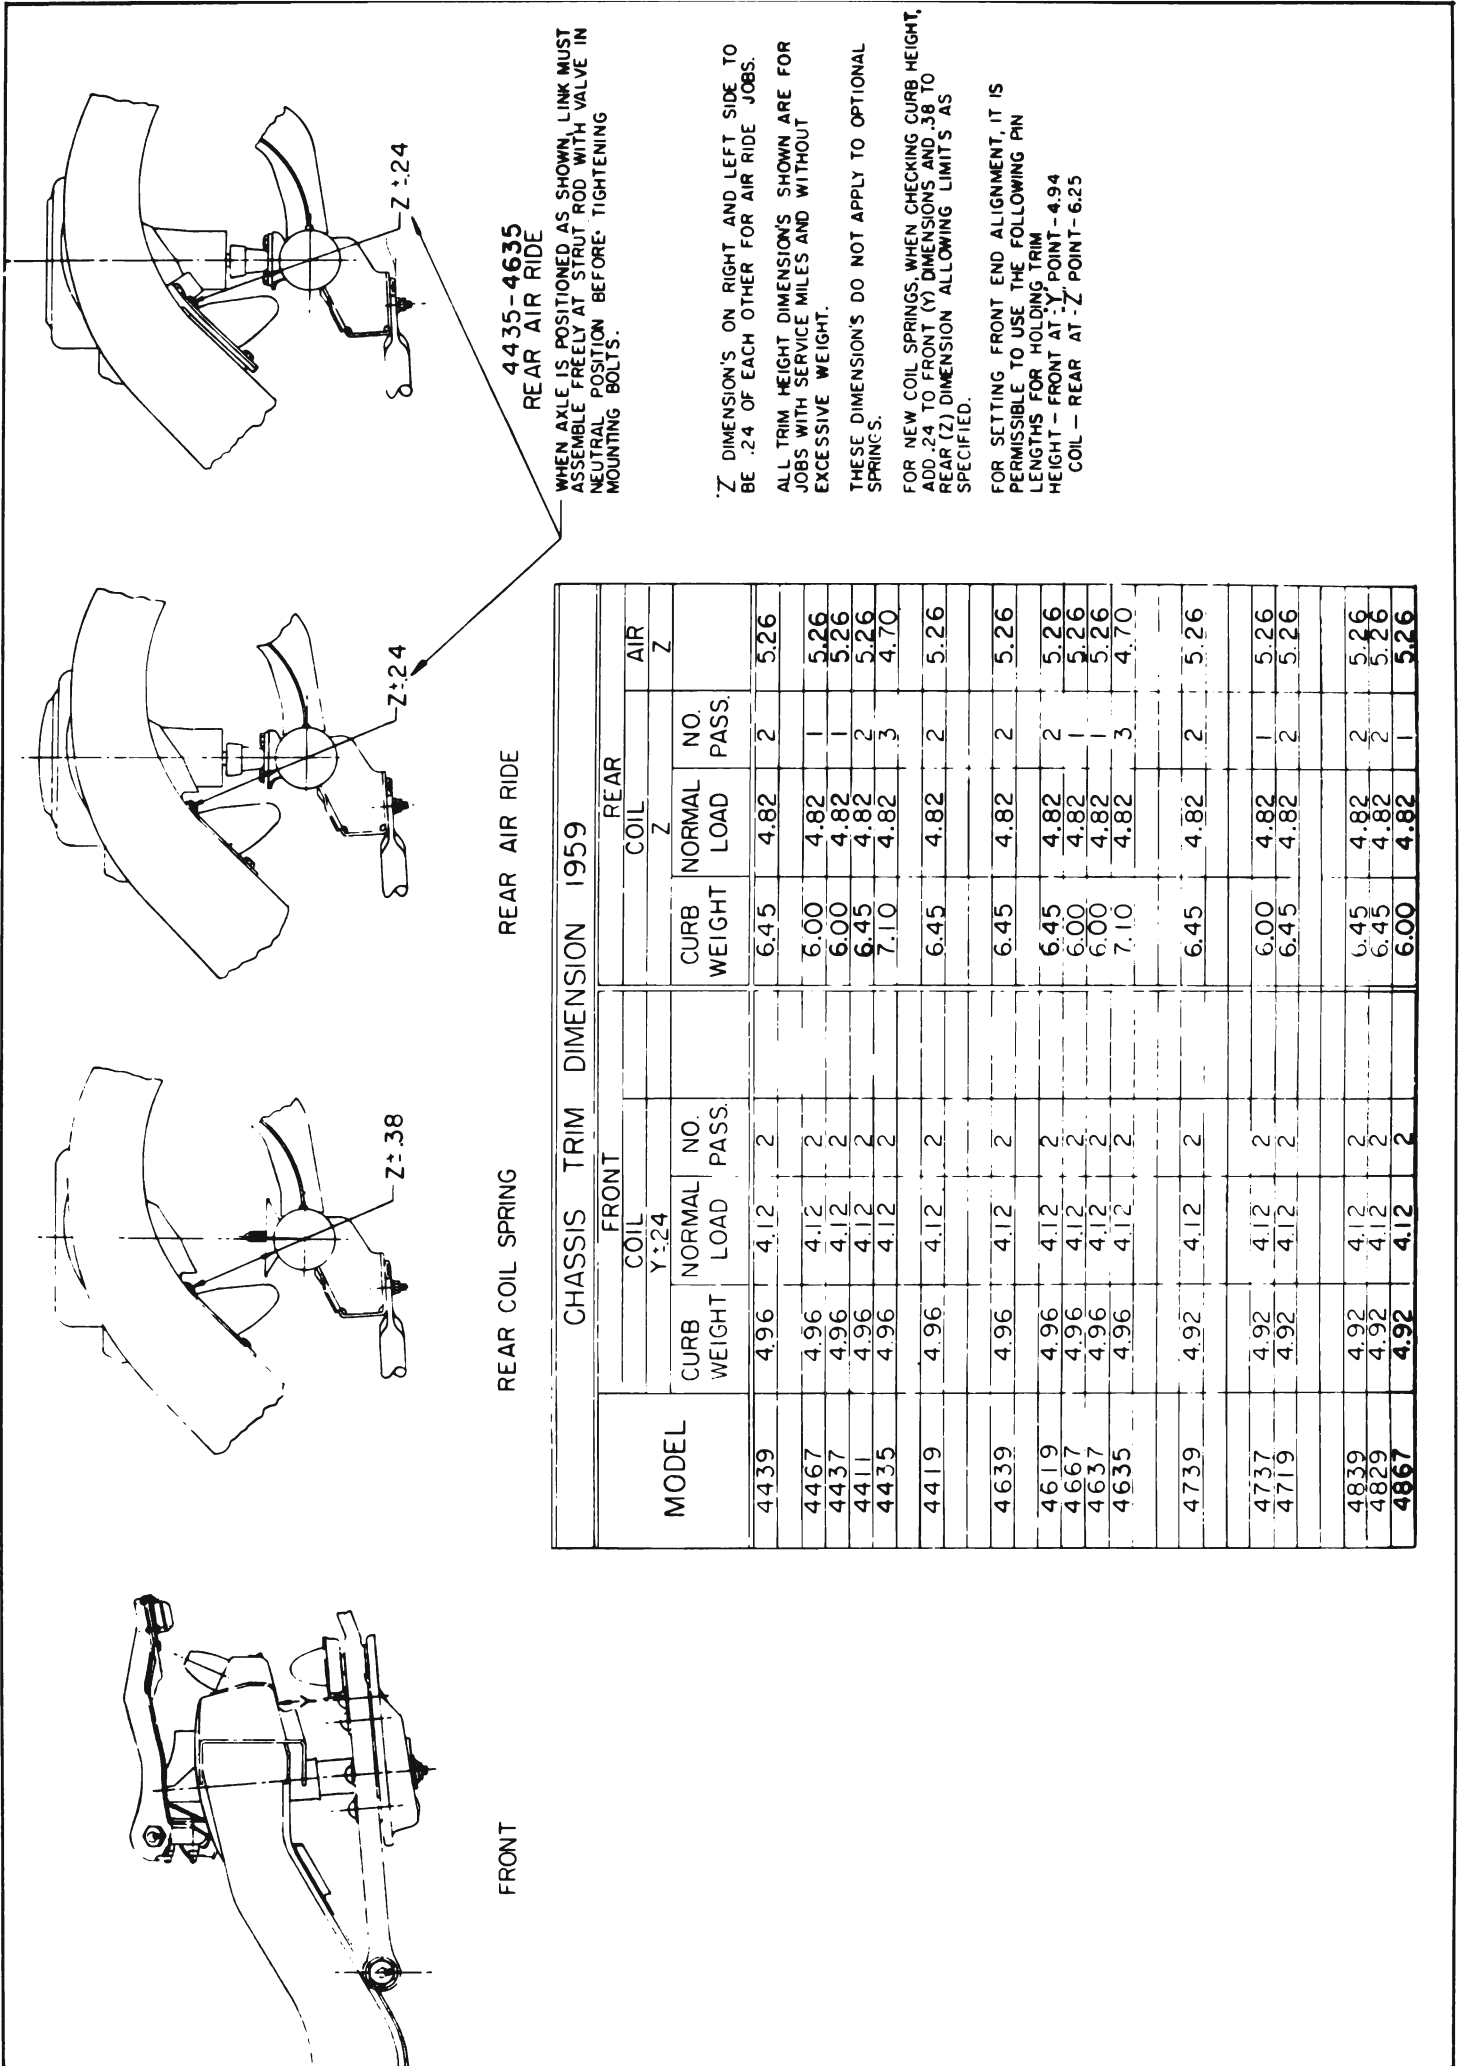

Figure 7-12—Trim Height Chart
Before measuring spring trim dimensions, bounce both ends of car up and down several times to make sure there is no bind in suspension members, and to let springs take a natural position. When car is at rest, measure the trim height at point "Y" for front spring or point "Z" for rear spring, as indicated in figure 7-12.
(1) *Front Springs*. On a car having service miles the front spring trim dimension "Y" should be as shown in Figure 7-12 chart.
(2) *Rear Springs*. On a car having service miles the rear spring trim dimension should be as shown on Figure 7-12 chart.